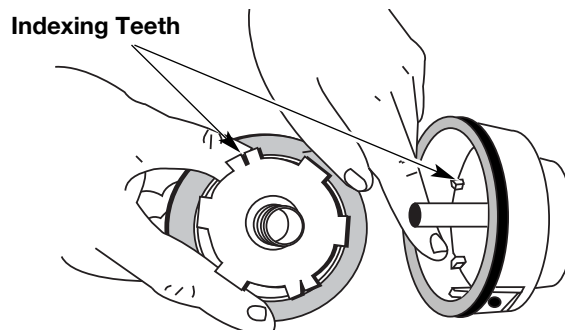

Fig. 14
5. Check the indexing teeth on the inner reel and outer spool for wear (Fig. 14). If necessary, remove burrs or replace the reel and spool.